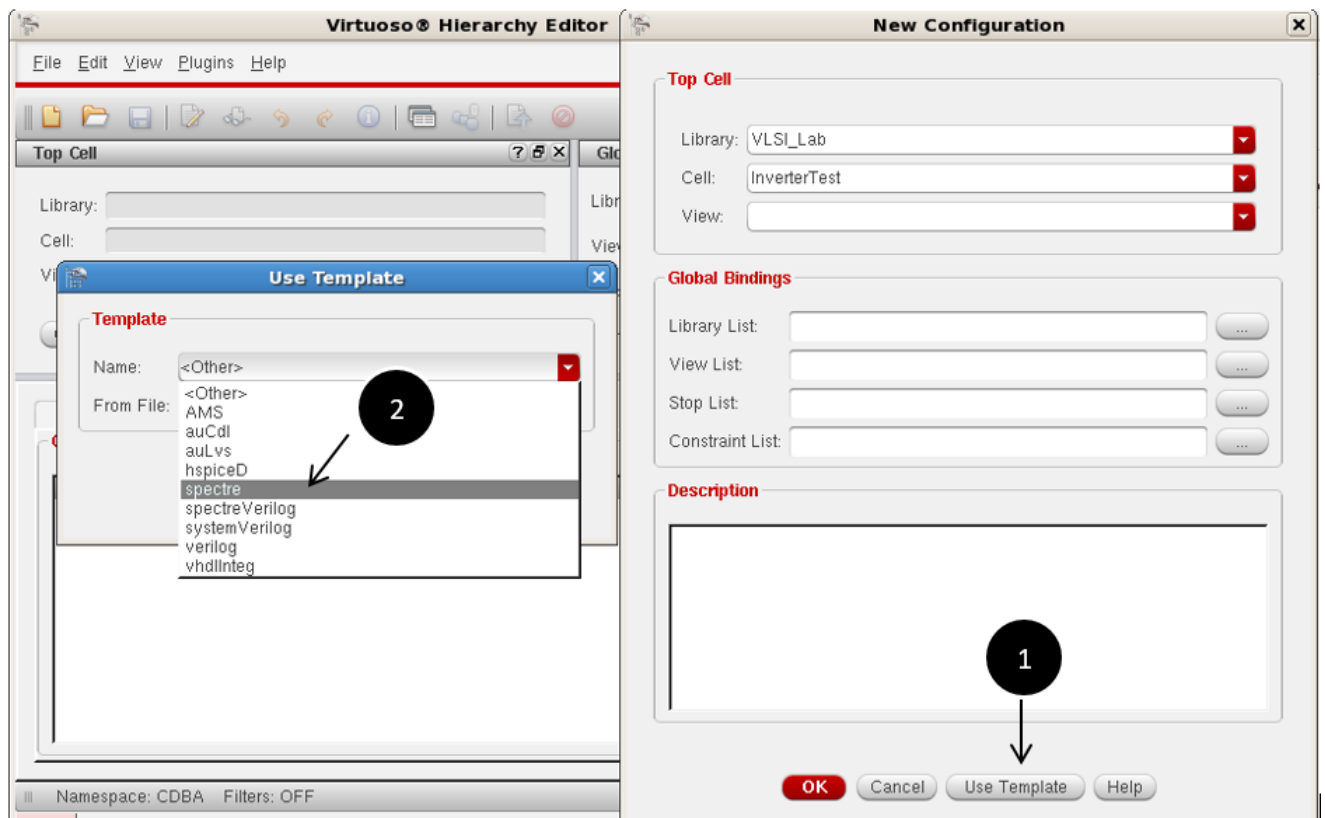

Figure 6.9: Hierarchy Editor for Test cell
4. Click **Use Template** option and select **spectre**, as shown in Fig.6.9.